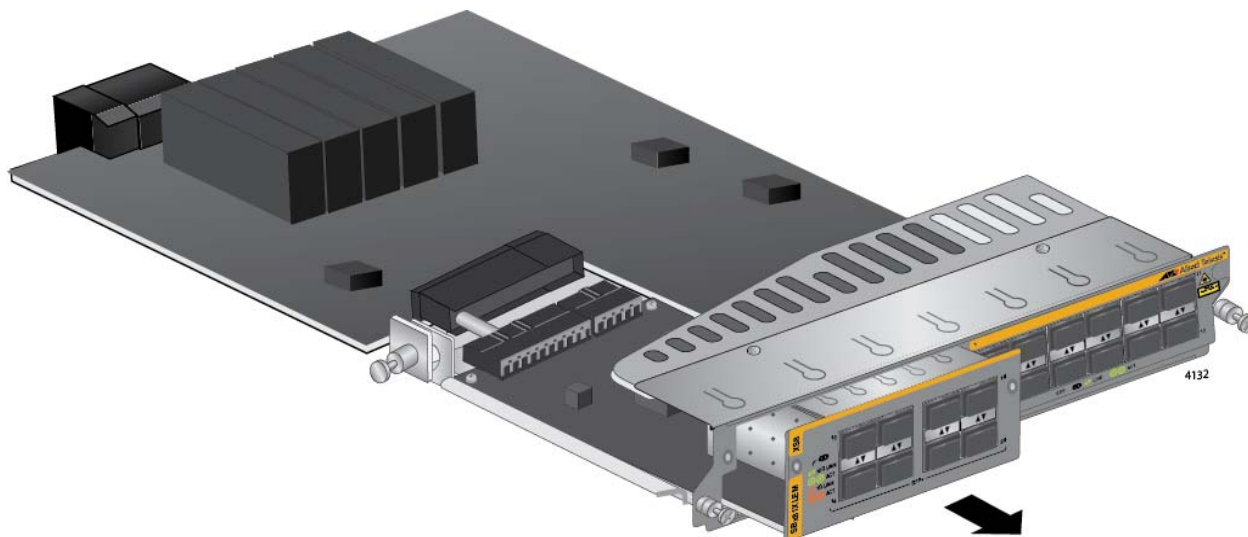

Figure 163. Sliding the Expansion Module from the AT-SBx81XLEM Line Card
6. Slide the expansion module from the line card. Refer to Figure 163 on page 256.